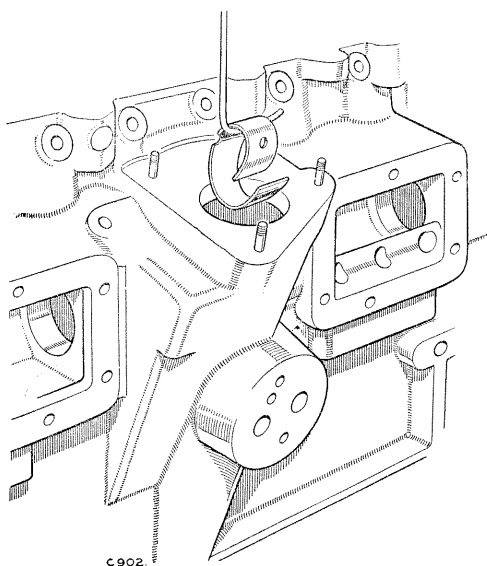

Fig. A-38—Inner camshaft bearing removal
3. The front intermediate bearing is removed by drifting it into the distributor drive chamber, using the same tool, but it must be collapsed before withdrawing from the drive aperture as illustrated in Fig. A-38.